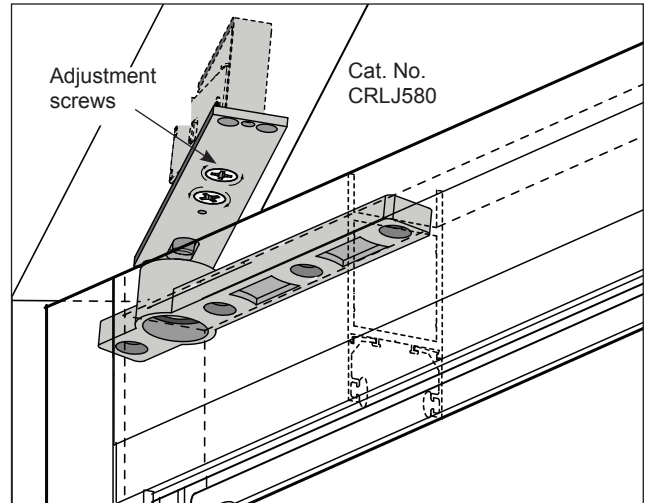

FIG. 10
6. If using a Walking Beam Top Pivot, Cat. No. J580, partially open the door to access the adjustment screws. Follow the instructions included with the Top Pivot. **(Fig. 10)**